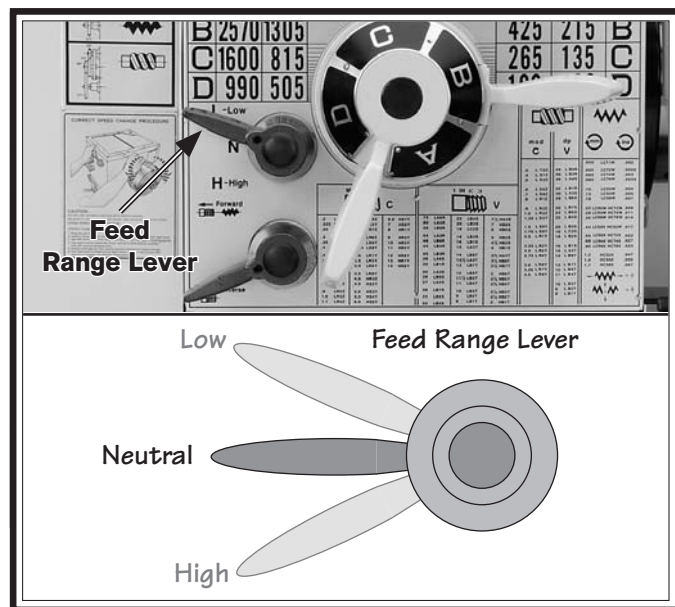

Figure 25. Feed range lever.
6. To disengage the quick-change gearbox from the drive train, move the feed range lever to the neutral (middle) position (see **Figure 25**).